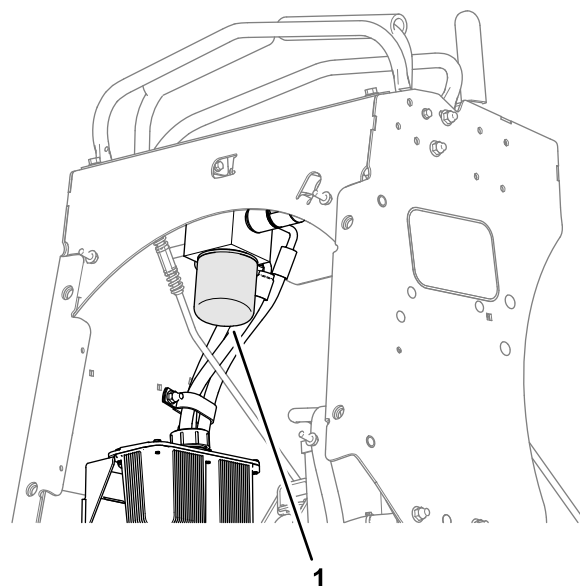

Figure 52
1. Unscrew the filter to remove it and allow oil to drain (Figure 52).
3. Turn the filter clockwise until rubber seal contacts the filter adapter, then tighten the filter an additional 2/3 to 3/4 turn (Figure 52).